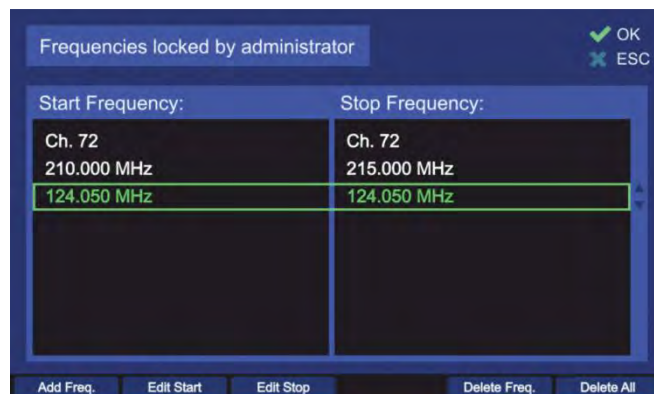

Figure 102. Locked frequencies list. Administrator view
- o By pressing the “OK button or hotkey “Edit Value”, while the setting “Lock/Unlock Frequencies” is marked by the green frame, the following dialog is opened (s. Figure 102). This view will contain only one hotkey “Add Freq.” if entered for the first time, when no frequency is locked yet.